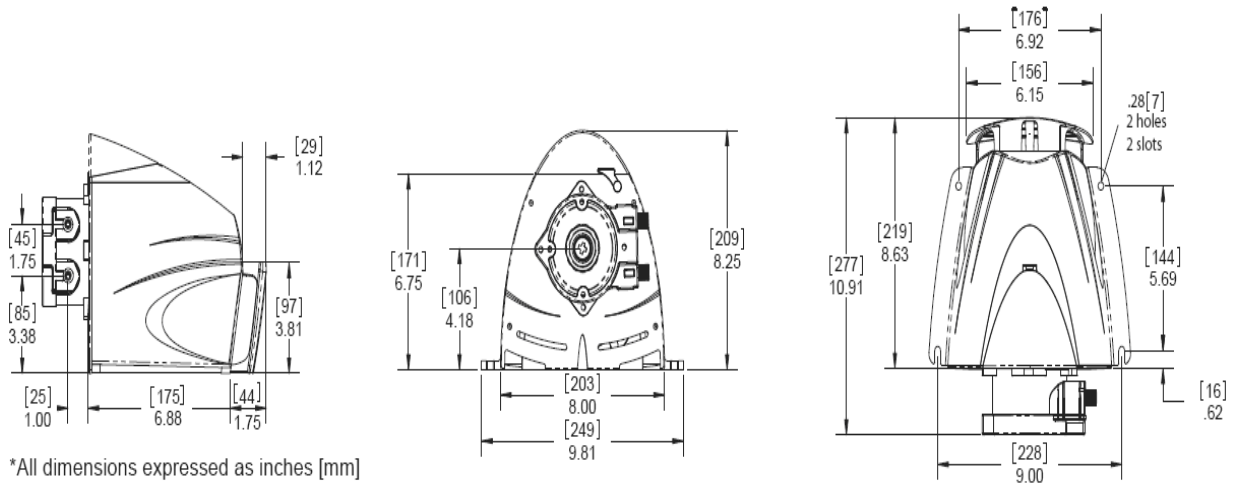
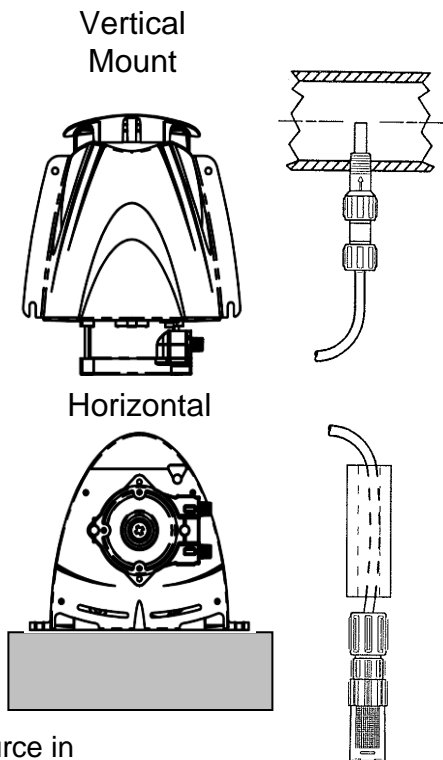

Figure 1: Pump Dimensions
Figure 2: Injector Placement
1) The pump can be installed either vertically or horizontally (See Figure 2). Make sure to secure the pump on a flat level surface that will support 50-lbs (22kg) and secure with four .25-in (6mm) screws in the holes provided. The guard snaps into the back of the pump via three tangs - see Figure 1. The pump should be mounted with no less than 1.75-in (44mm) of clearance around the venting on both the front and the rear of the pump. Locate the pump so there is direct access to the power cord plug.
3) Relieve the system pressure and drain the piping run where the injection fitting is to be installed. See Figure 2 for reference. **The injection fitting must not be installed in a dead end pipe or a deeply recessed tee. It should be installed so as to place the tip at the center of the fluid stream as indicated in Figure 2.** The injection fitting is supplied with .25-in NPT threads. If necessary drill a .44-in (11mm) diameter hole and using care not to tap too deeply, tap for .25-in NPT.